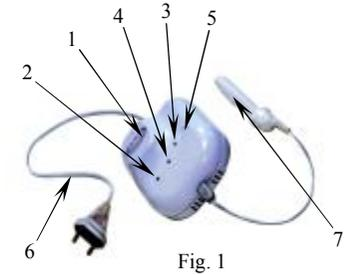

Fig. 1
MAVIT device (Fig. 1) consists of a power-supply unit (1) with “POWER” light emitting diode, indicating the unit connection to alternating-current mains (2); ON/OFF button (5) activating and dis-activating applicator operating mode (heat, magnetic field and vibration) which both is being signaled with lighting of “RUN” light emitting diode (4) and activation of timer, defining run cycle time, that is followed with lighting of “ON/OFF” light emitting diode (3); mains cord (6) and patient’s cable (7) on it. The patient’s cable is (2.0 ± 0.1) m length, the length of mains cord is (2.0 ± 0.1) .